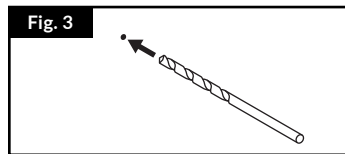

Fig. 3
- **Drill Pilot Holes:** Use a drill bit to drill pilot holes in each of the previously marked locations (Fig. 3).